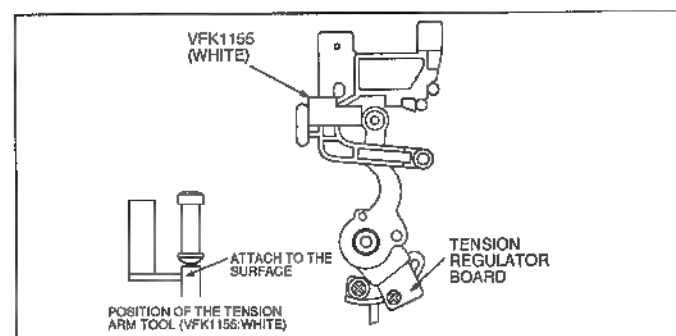

Fig. E-4
2. Set the VFK1155 to the Supply Post Base (A) as shown in Fig. E-4.